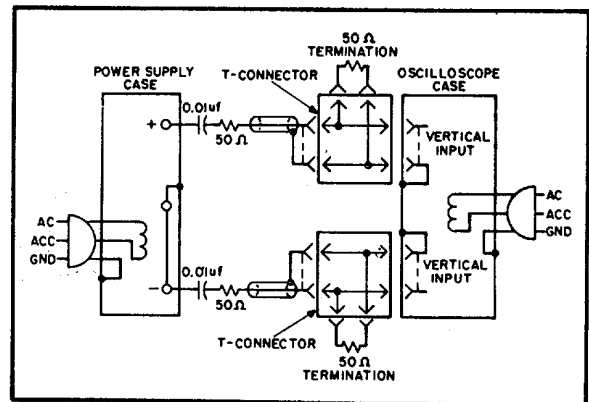

Figure 5-5. CV Noise Spike Test Setup
- a. As shown in Figure 5-5, two coax cables, must be substituted for the shielded two-wire cable.
5-31 The circuit of Figure 5-5 can also be used for the normal measurement of low frequency ripple and noise; simply remove the four terminating resistors and the blocking capacitors and substitute a higher gain vertical plug-in in place of the wide band plug-in required for spike measurements. Notice that with these changes, Figure 5-5 becomes a two-cable version of Figure 5-4C.